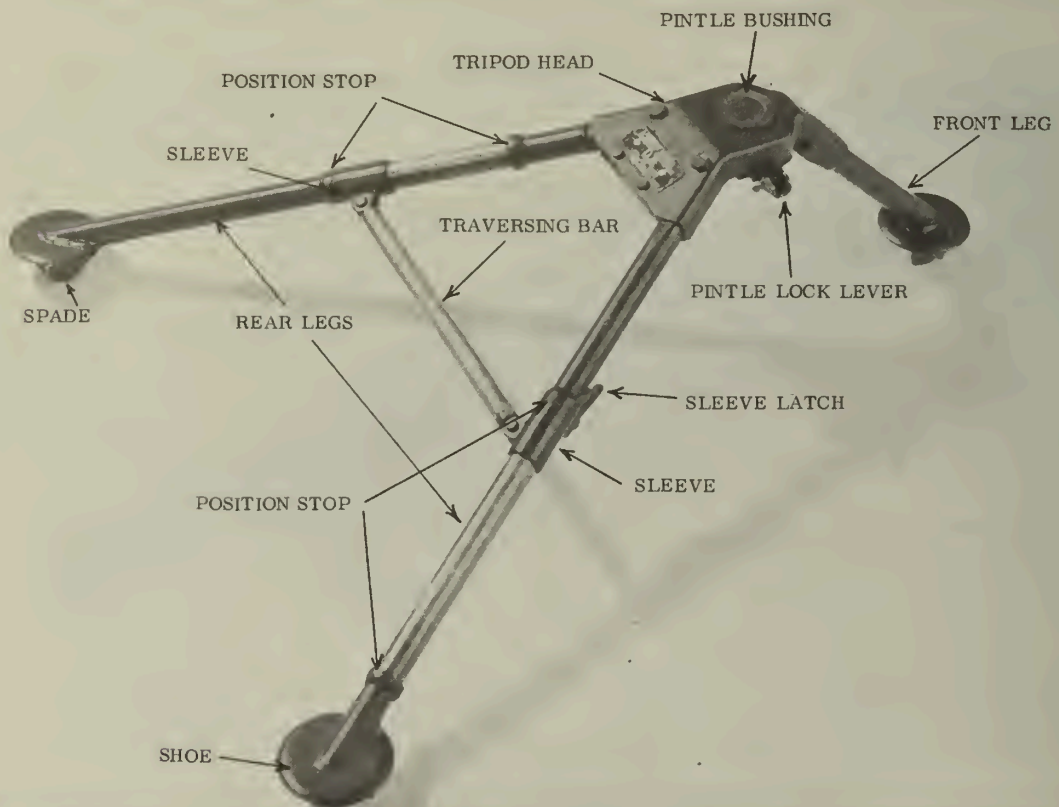

Figure 70. --The Tripod.
light, yet furnishes a strong mount for the gun. (See figs. 70, 71, 72, and 73.)
a. The Tripod. --(See fig. 70.) The central portion of the tripod is the tripod head. The pintle bushing which surrounds the pintle well is located in the middle of the tripod head. On the right of the tripod head is the pintle lock lever. The front and the two rear legs each have circular shoes. Beneath the shoes are the spades. The traversing bar connects the rear legs. The traversing bar has an engraved mil scale totaling 875 mils. It is graduated from zero in the center to 450 mils on the left and 425 mils on the right. It is marked every five mils and numbered every hundred. This is a direction scale. Since we read direction from the way the muzzle is pointing, the mil scale on the traversing bar is read backwards. For example, a 200-mil reading on the left side of the bar is actually a Right 200 reading since the muzzle is pointing to the right. The traversing bar is held to the rear legs by a sleeve at each end of the bar. There are two position stops on each rear leg. This allows the rear legs to be open or closed. There is a sleeve latch on the right rear leg to engage the sleeve and lock the legs open.